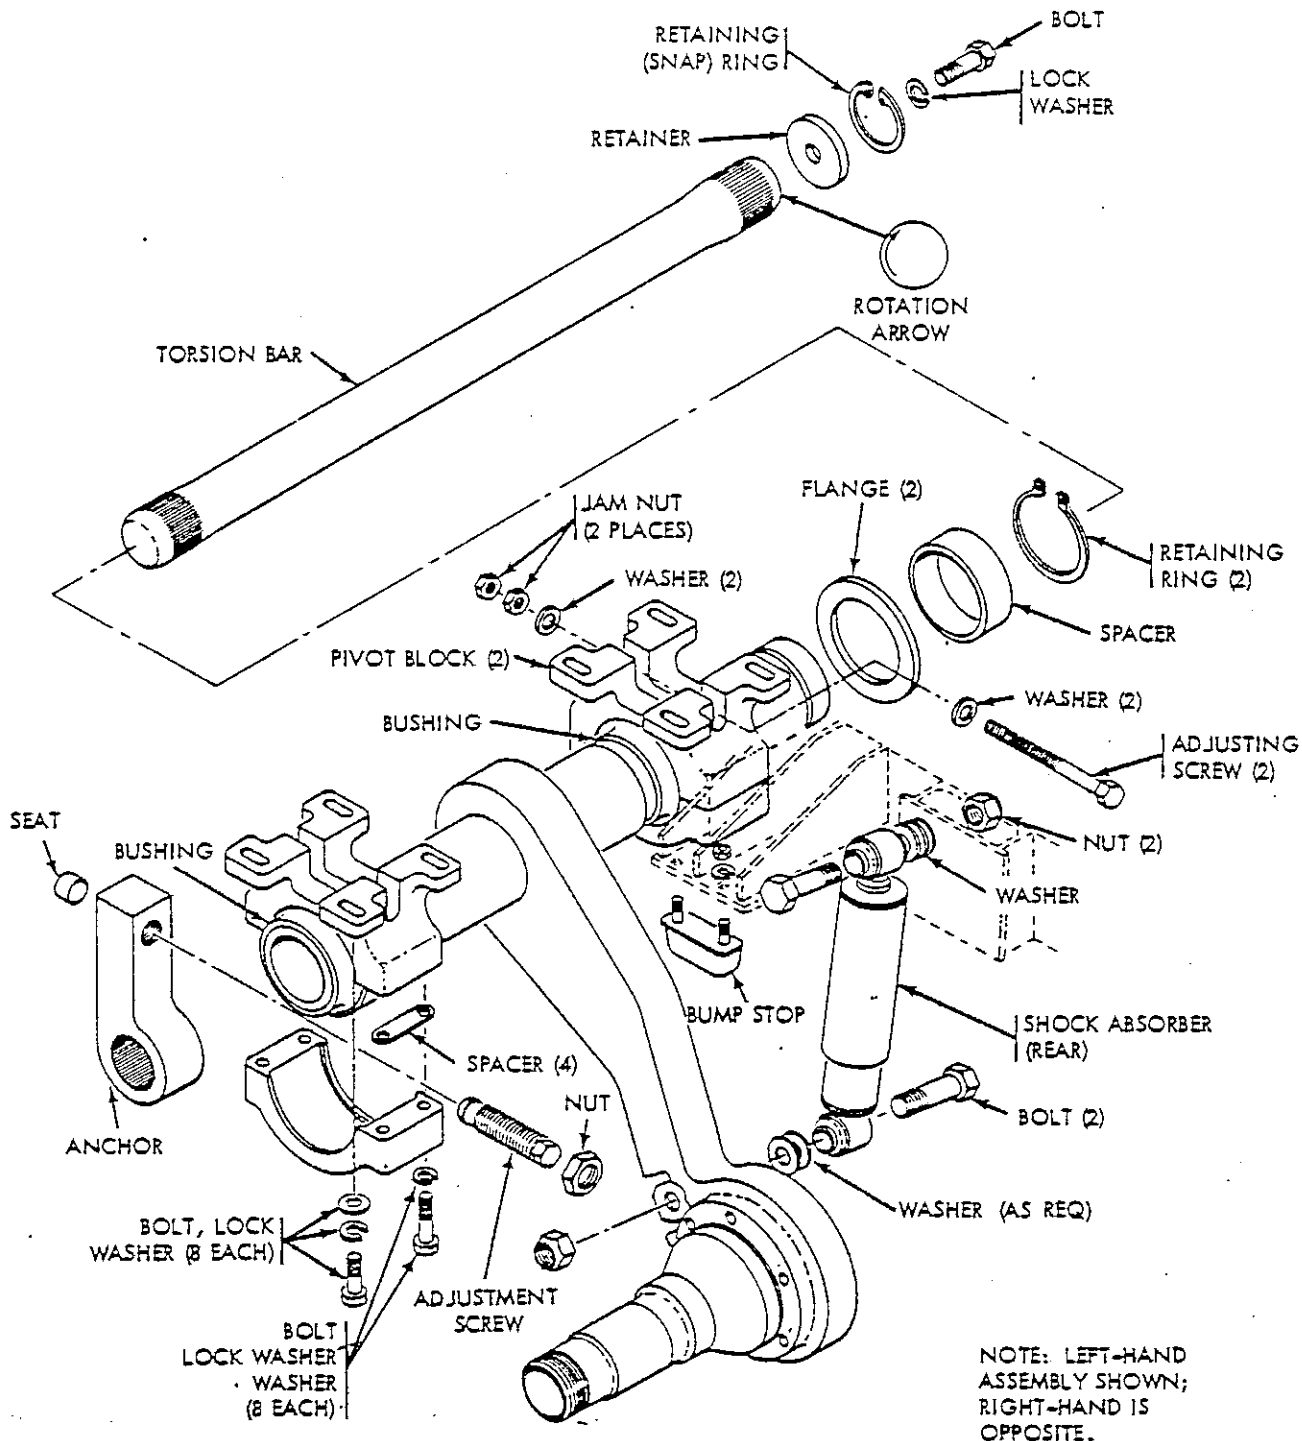

Figure 6-1. Rear Suspension
6-1. DESCRIPTION (fig. 6-1)
(4) At outboard end of pivot tube, remove four screws and access plate to torsion bar anchor.
(5) Loosen nut on adjusting screw in anchor, then turn screw to release all pressure on screw.
(6) At inboard end of trailing arm pivot tube, remove internal retaining ring, bolt, washer, and retainer disc. Reengage bolt in torsion bar end by about four turns (to aid in torsion bar removal).
(7) Support trailing arm below pivot tube with hydraulic jack, remove four bolts and washers, then remove each pivot block cap with two shims.
(8) Pry on bolt in torsion bar inboard end to release bar from its anchor, lower the trailing arm about 3 inches for work clearance, then remove torsion bar.
(9) If trailing arm is to be removed, lower and remove from beneath vehicle.
(10) To inspect trailing arm or torsion bar refer to paragraph 6-4.
e. Trailing Arm and Torsion Bar Installation (fig. 6-1).
(1) Use hydraulic jack to position trailing arm under vehicle, then raise it almost into position, about 3 inches below pivot block bases (for torsion bar insertion).
(2) Carefully insert torsion bar into pivot tube, with arrow (on the bar inboard end) pointing clockwise on left-hand bar and, for right-hand bar, counterclockwise.